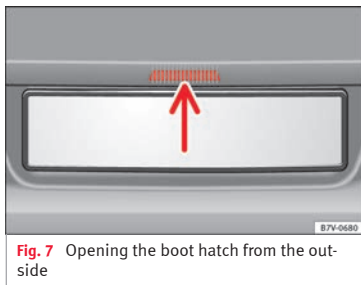

Fig. 7 Opening the boot hatch from the outside
- Raise the rear lid using the button » » **Fig. 7** (arrow).